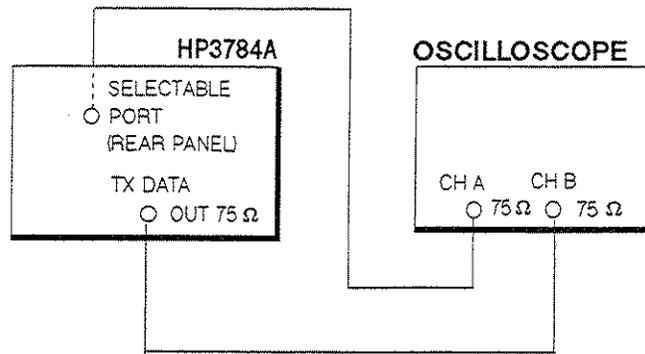

Figure 8-5 Transmitter Pattern Trigger Test Set-up
- Now connect the equipment as shown in Figure 8-5.